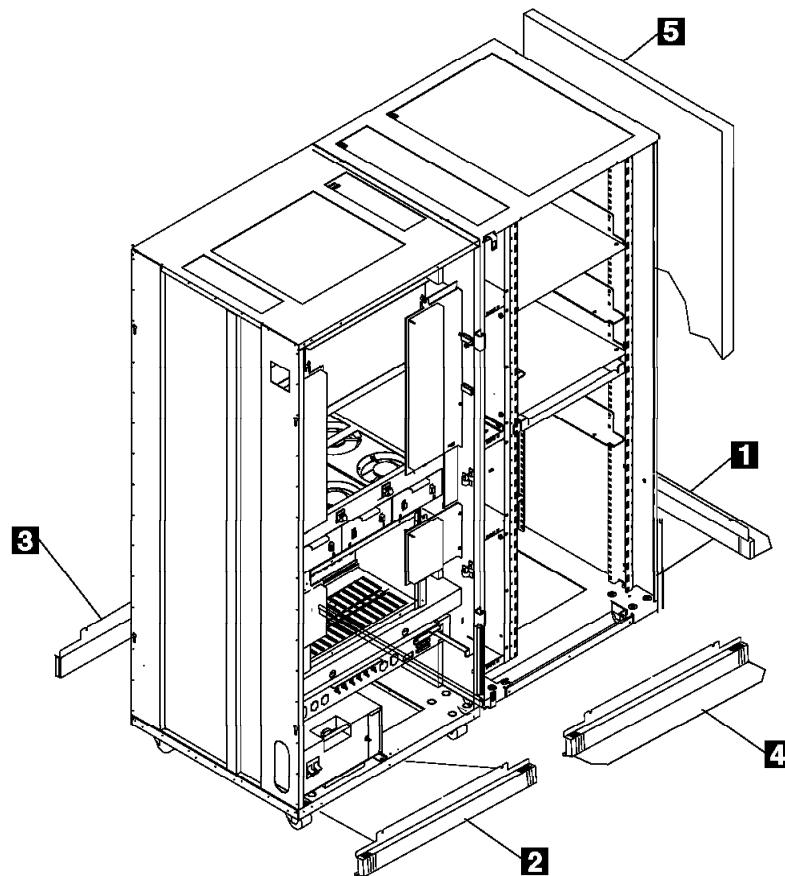

Figure 9-3. 3746-900 and Controller Expansion Ground Brackets (Front View)
- a. \_\_\_\_ Install the front ground plate **4** (PN 58G5675) and left ground plate **1** (PN 58G5676) using screws (PN 2665527) (refer to Figure 9-3).